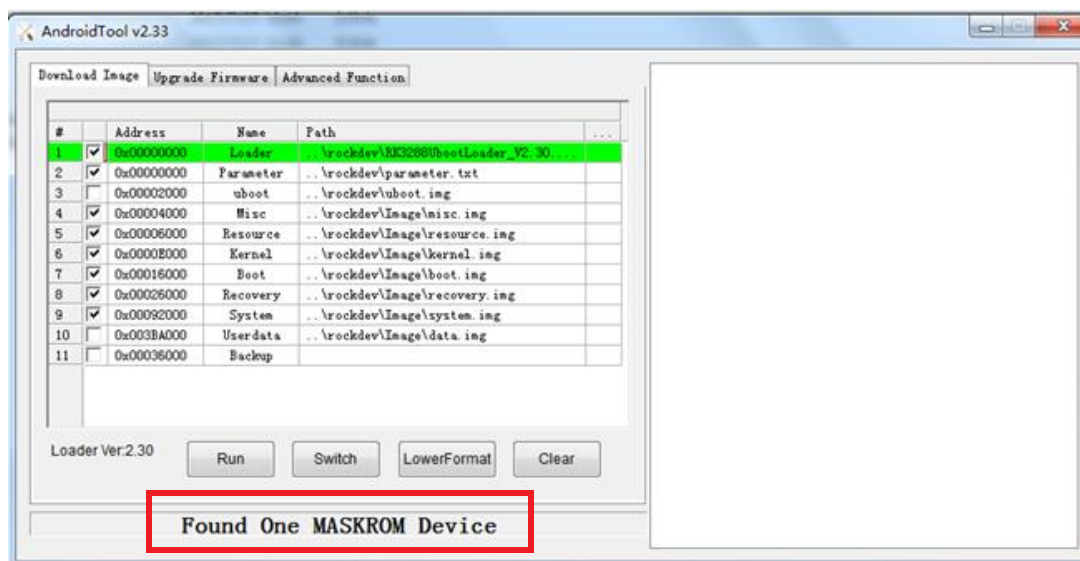

**Figure 3.1 USM-110 Mainboard**
2. Configure the CN7 jumper by connecting Pins 1 and 2 instead of the default position of Pins 2 and 3 (refer to the red arrow in Figure 3.1).